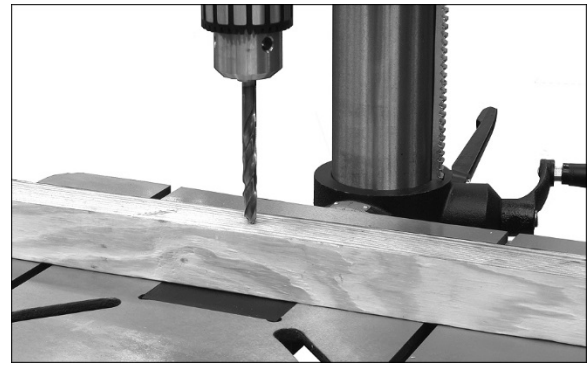

Figure 8-7
2. Use down-feed handles (N) to lower the bit until it just contacts the top surface of workpiece, as shown in Figure 8-7.